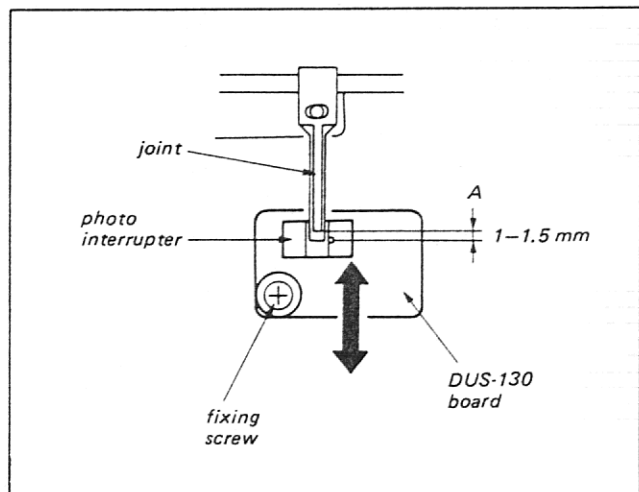

Fig. 7-1
4. Adjust the position of DUS-130 board in the direction shown by the arrow in Fig. 7-1 so that the space A meets 1 to 1.5 mm.